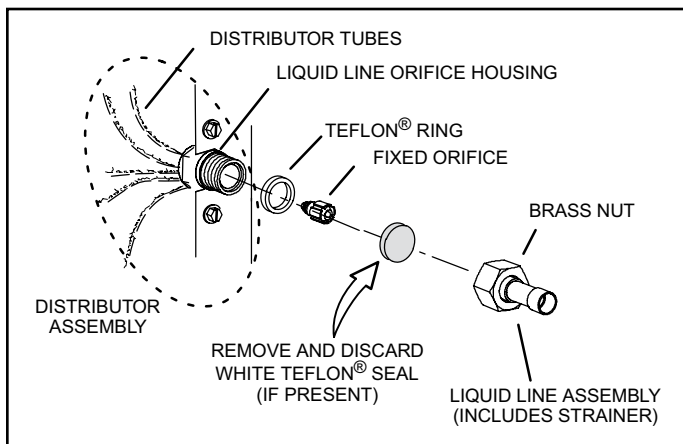

Figure 3. Remove Fixed Orifice (Uncased Coil Shown)
4. Remove and discard fixed orifice, valve stem assembly (if present) and Teflon® washer, as shown in Figure 3.